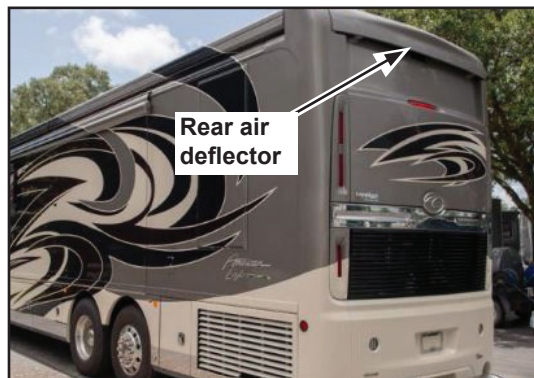

Figure 2
5. With the properly sized step-ladder and appropriate safety equipment, go onto the roof of the motorhome and locate the rear air deflector. While working on the roof, ensure there is adequate overhead clearance and the proper fall protection is used. See Figure 2.